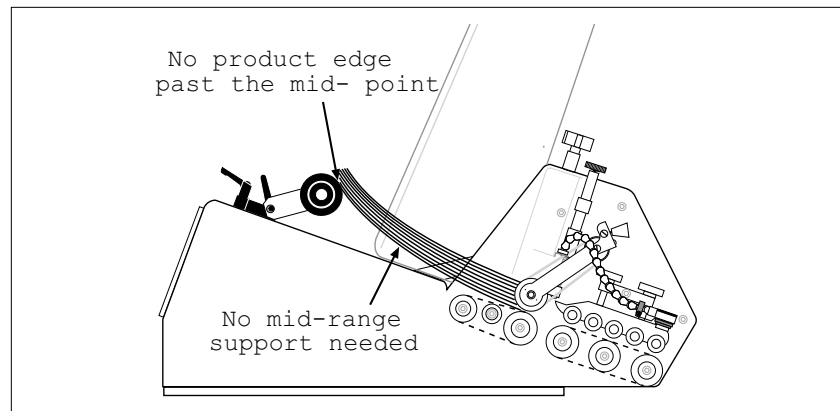

Figure 7-8. Articulating Roller Wedge Setup
**Setup guidelines:** Adjust so roller edges preshingle the stack against the curvature of gate assembly. Again, make sure edges of product do not extend back more than the mid-point of roller. See Figure 7-8.